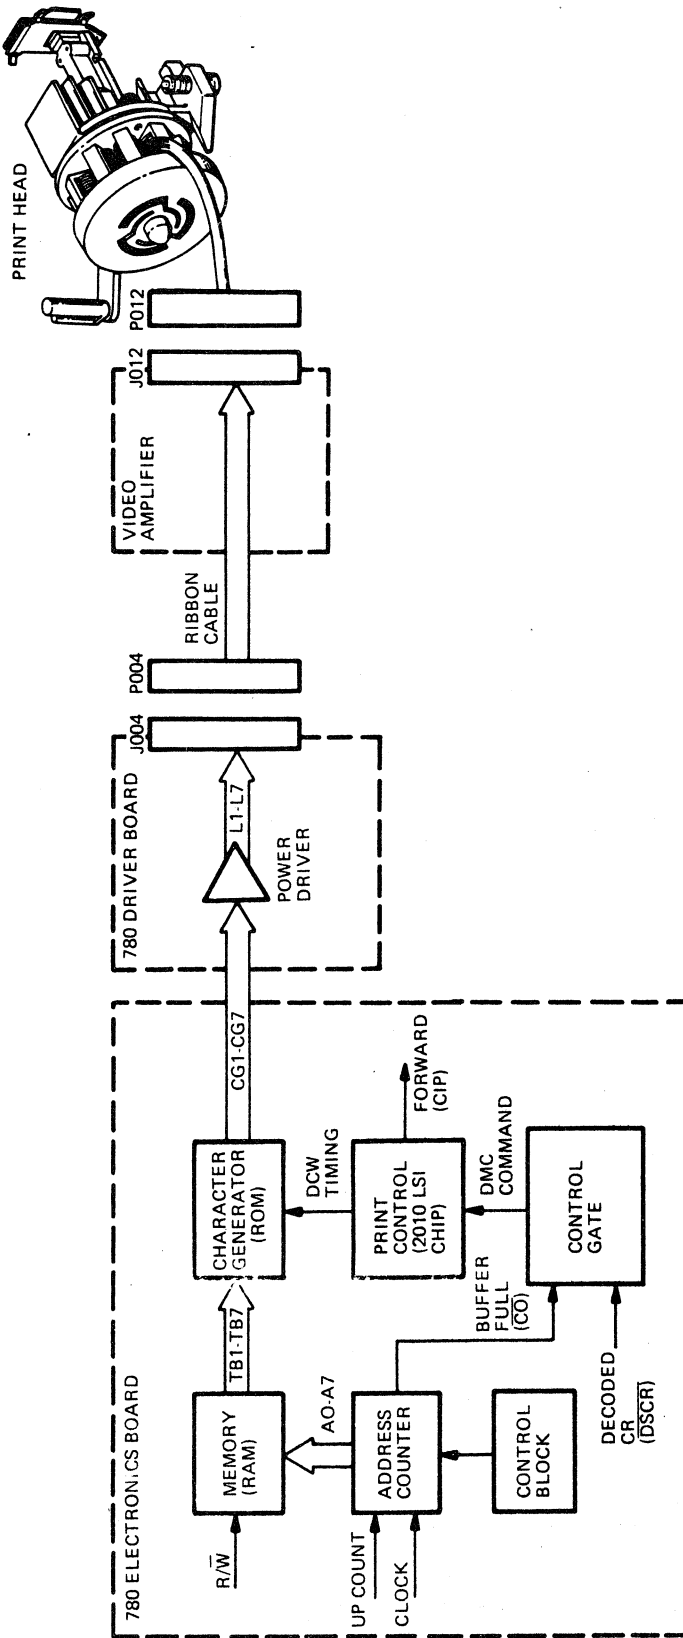

FIGURE 2-4. CHARACTER PRINTING
2.5 CHARACTER PRINTING (Figure 2-4)